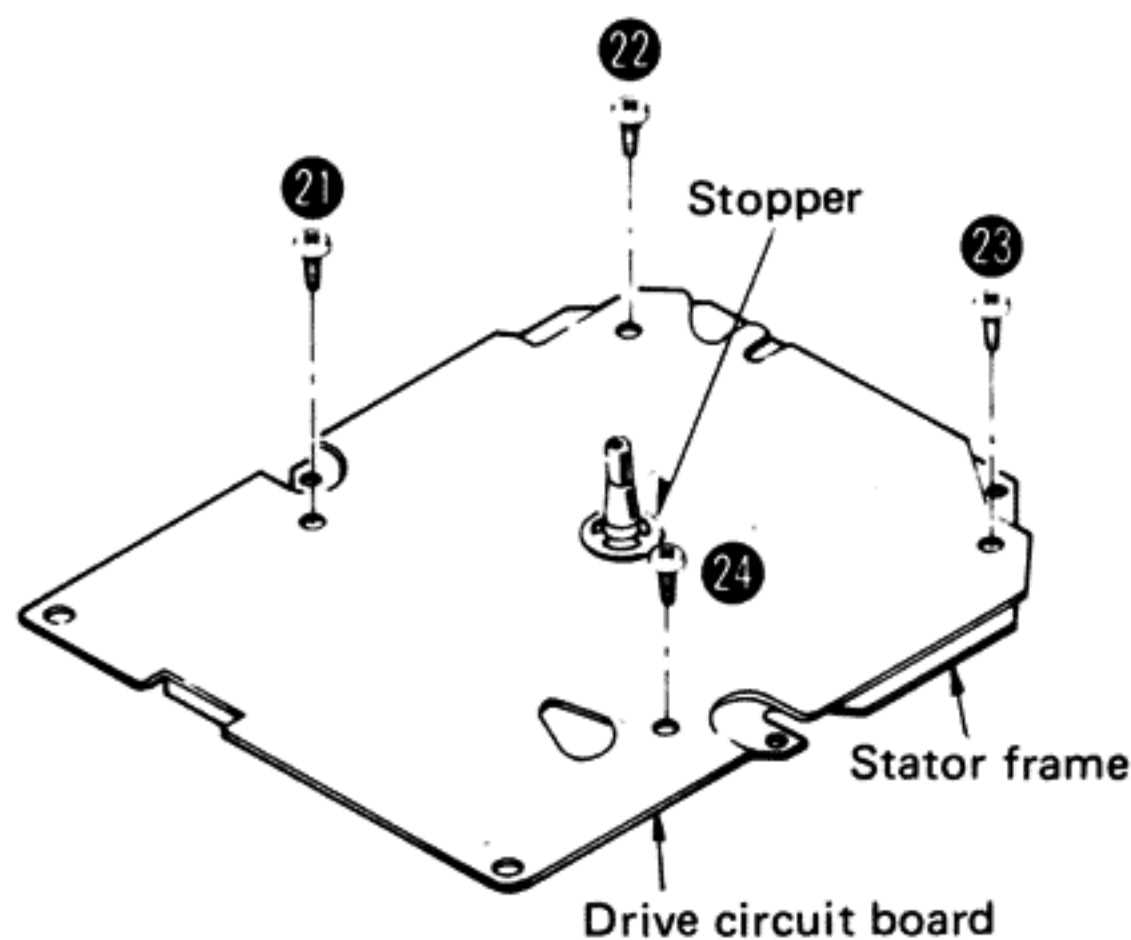

Fig. 9
3. Cut off the stopper by nippers and remove the 4 setscrews (Fig. 9: ㉑ ~ ㉔) to separate the stator frame and drive circuit board.